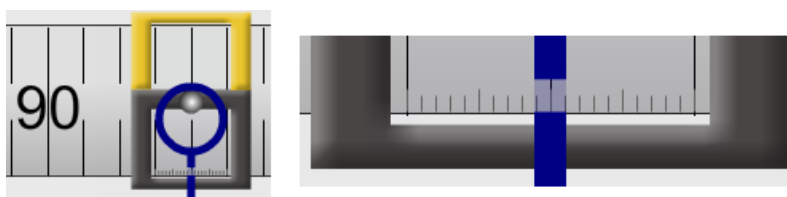

Figure 4a:
4. We now want to add a second clamp at 94.4 cm. Start by placing it at 94.0 cm. Using Figure 4a as a guide, do your best to place a hanger there. For a better view, **Right-click** (Ctrl-click) on the clamp and **Zoom in** to make fine adjustments. If you **zoom in** about three levels you'll notice that there is a tiny set of 1-mm graduations inside the mass hanger clamp. See Figure 4a. You can even see them through a transparent section of the hanger. Drag the hanger left and right. Notice that the graduations are attached to the clamp not the meterstick. So they move against the background of the widely-spaced 1-cm marks. These millimeter marks tell you how far the clamp is away from a 1-cm mark.
In Figure 4a the clamp is at 94.0 cm. Adjust yours to match. Notice how the central 1-mm mark, which defines the location of the hanger, aligns with the long 94.0-cm mark on the ruler. And there are 10 1-mm marks either side of it for the full 2-cm width between 94.0 and 95.0 cm.